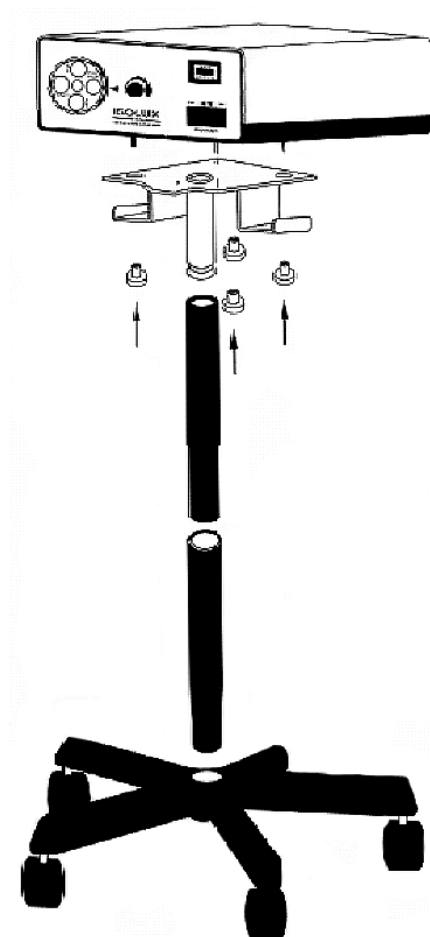

Figure 2
Please follow the steps below in order to complete the assembly of the 30 inch floor stand to the 300 Watt Xenon Fiberoptic Light Source (reference Figure 2):
3. Remove the screw and clamp that secure the lamp module to its platform. (see figure 2)